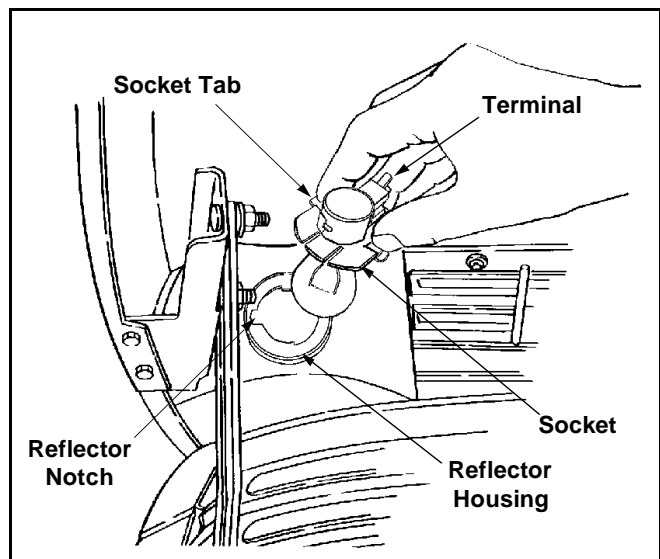

Figure 25
- Unplug the wire harness leads from the lamp socket terminals. See Figure 25.